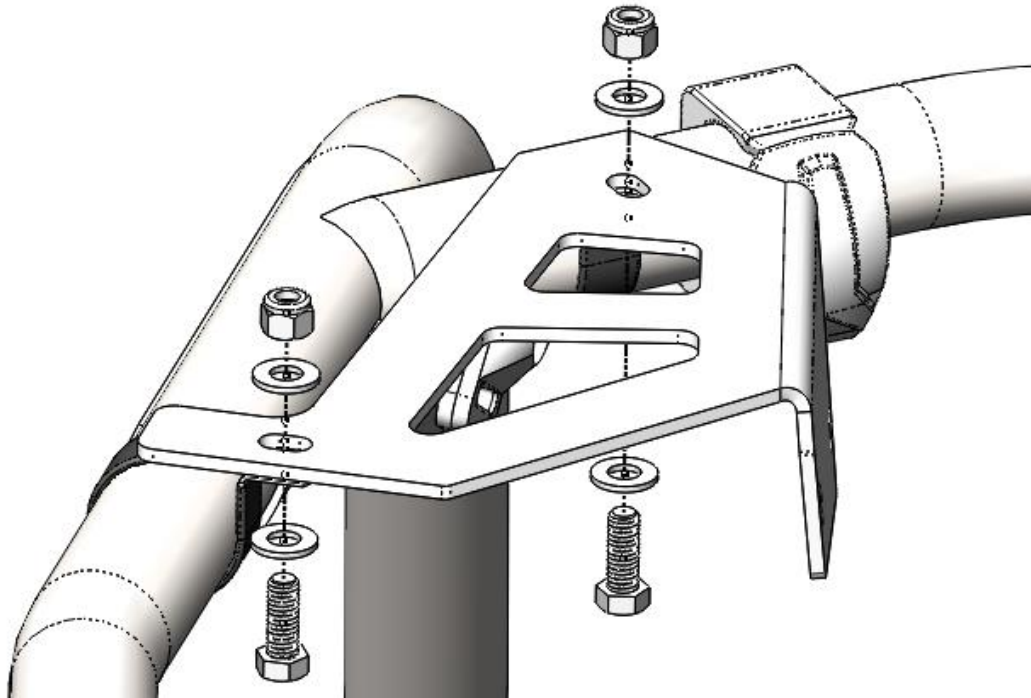

Figure 3: Hardware for mounting the loop clamps to the brackets.
2. Use the supplied $3/8''-16 \times 1''$ bolts, washers, and nylock nuts to secure the loop clamps to the mounting brackets. Loosely tighten the bolts to still allow for adjustment of the *Audio Mini* placement. See Figure 3. **Note: Driver side bracket shown. (Passenger side similar)**